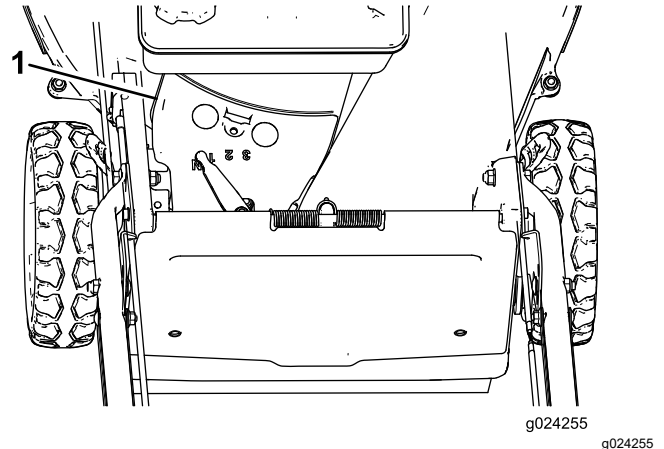

Figure 33
3. Remove the belt cover (Figure 33).